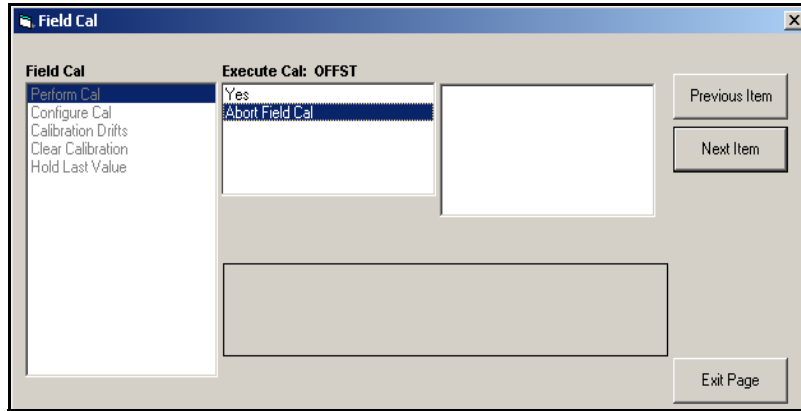

Figure 86: Perform Cal Option in the Field Cal Menu
- a. Highlight and double-click on the desired option in the left pane. *Figure 86* below shows the first entry (*Perform Cal*) in the *Field Cal* option. The title above the center pane lists the current entry, while the center pane displays the available selections for that entry.